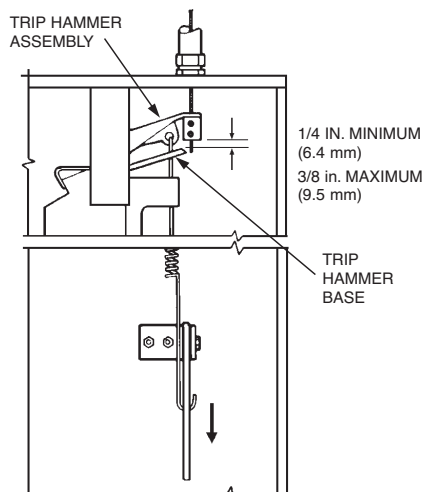

FIGURE 31
20. Lower tension lever to “DOWN” position and inspect the base of the wire rope clamping device to make certain that there is a minimum of 1/4 in. (6.4 mm) and a maximum of 3/8 in. (9.5 mm) clearance between the base of the trip hammer assembly and the cable lever assembly. See Figure 31. (If clearance is not between 1/4 in. (6.4 mm) or 3/8 in. (9.5 mm), raise tension lever, loosen set screws on locking clamp and repeat Steps 19 and 20.)